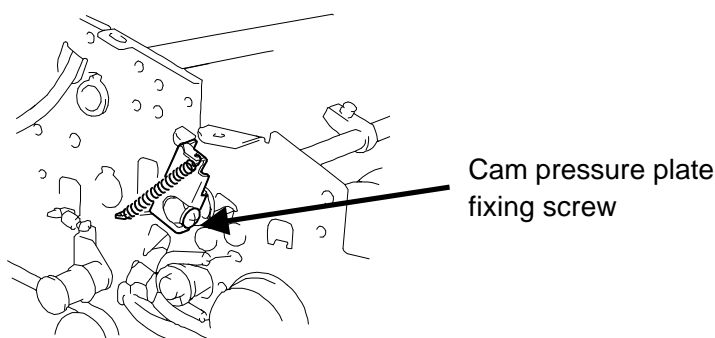

Fig. 2
- 2) Secure the cam pressure plate mounting screw shown in Fig.2 below.